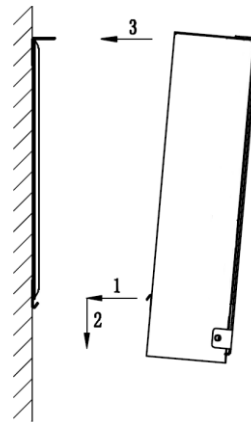

Figure 5
Step 5: Hang the appliance on the hooks at the bottom of the bracket and push the top of the appliance into the mounting bracket. Now fix the appliance to the mounting bracket by refitting the two M4×8 screws which were removed in step 1. (Figure 5)